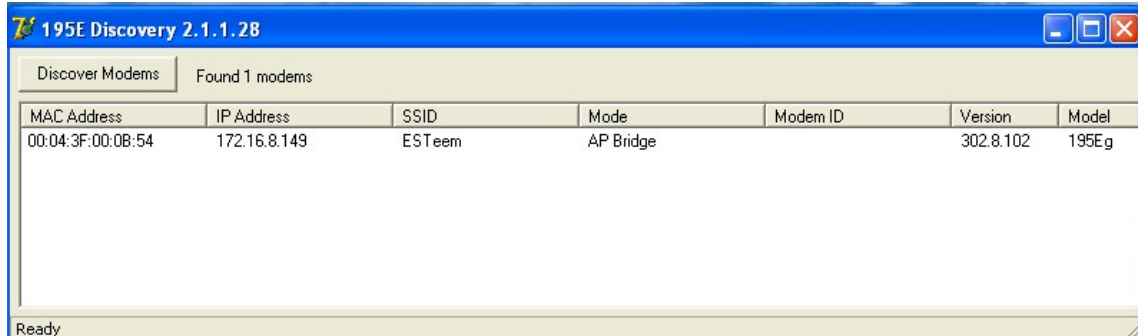

Figure 4: Discovery Program Main Page
4. Connect the Model 195C/M to your computer either directly to the Ethernet card or through a HUB/Switch using a CAT-5e Ethernet cable. The Ethernet port on the 195C/M supports Auto-Negotiation, so either a patch cable or crossover cable will work. Open the ESTeem Discovery Program and press the Discover Modems button. The Model 195C/M will be displayed in the program by the Ethernet MAC address and Current IP Address (Figure 4).